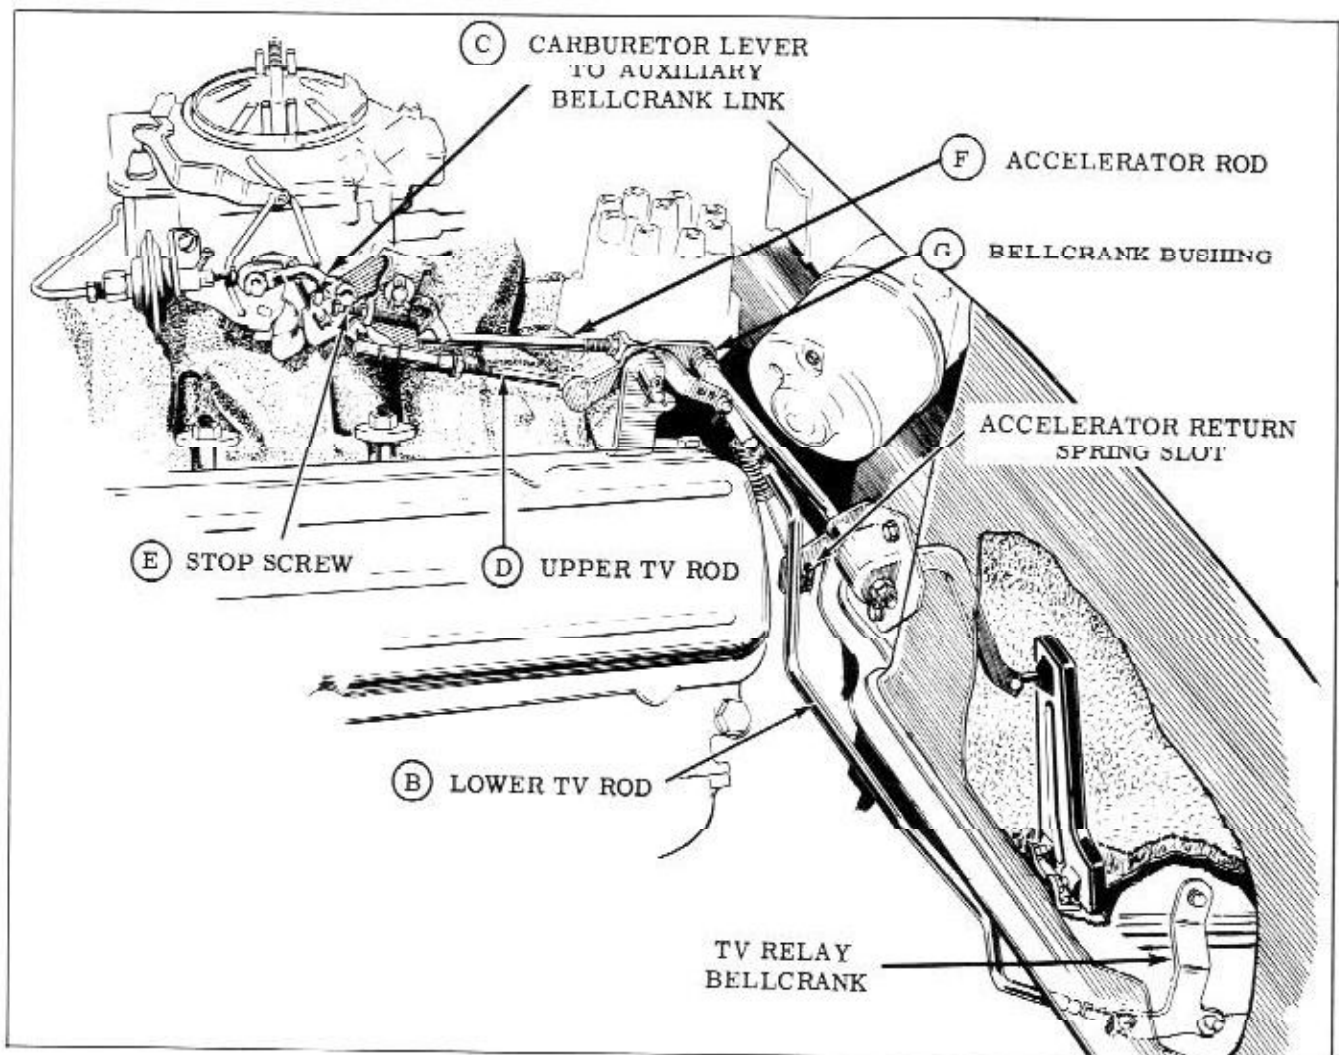

Fig. 3-134 Throttle Linkage Adjustments
(Fig. 3-134)
2. ADJUST LOWER T.V. ROD (B, Fig. 3-134)
3. ADJUST CARBURETOR LEVER TO AUXILIARY BELLCRANK LINK (C, Fig. 3-134)
4. ADJUST UPPER T.V. ROD (D, Fig. 3-134)
6. ADJUST THROTTLE DOWNSHIFT STOP SCREW (E, Fig. 3-134)